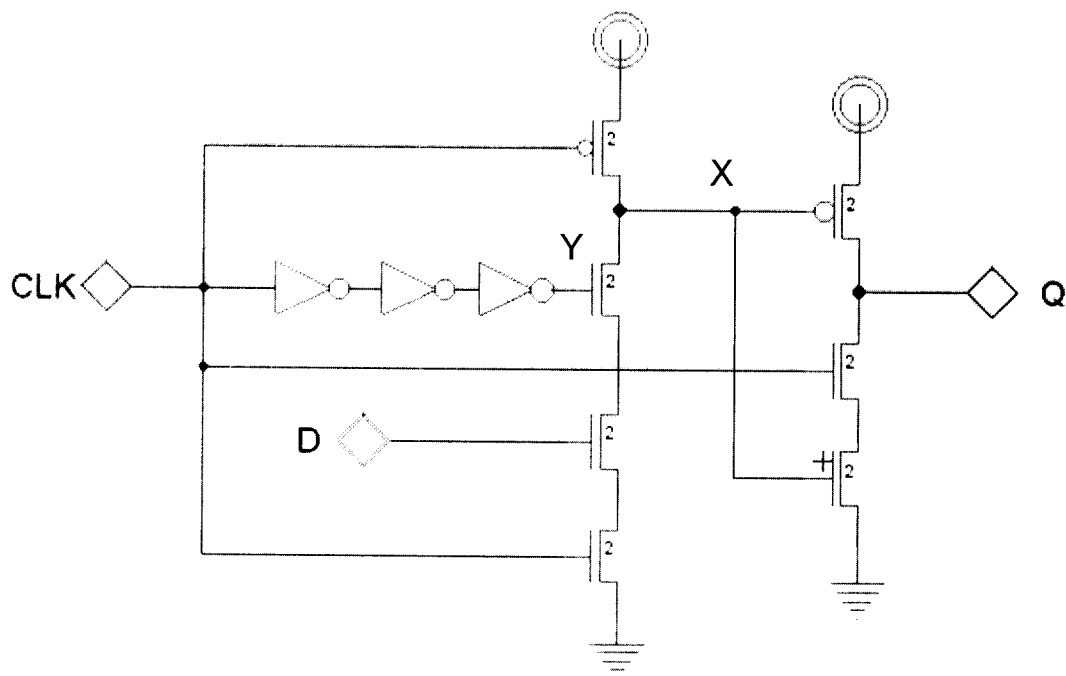
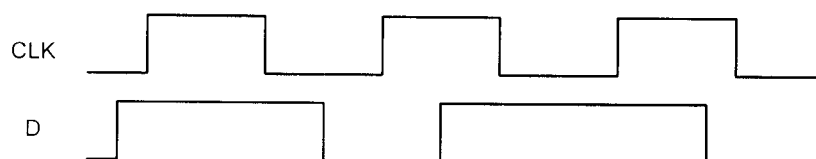

Figure 3.1
Figure 3.2
3. a) Figure 3.1 shows the circuit diagram of a flip-flop. Assuming that the signals CLK and D are as shown in Figure 3.2, draw a timing diagram showing the waveforms for CLK, D, X, Y and Q. Hence or otherwise, explain how this circuit works.
- c) Modify the flip-flop circuit shown in *Figure 3.1* so that the Q output also implements embedded logic described by the following Boolean equation: